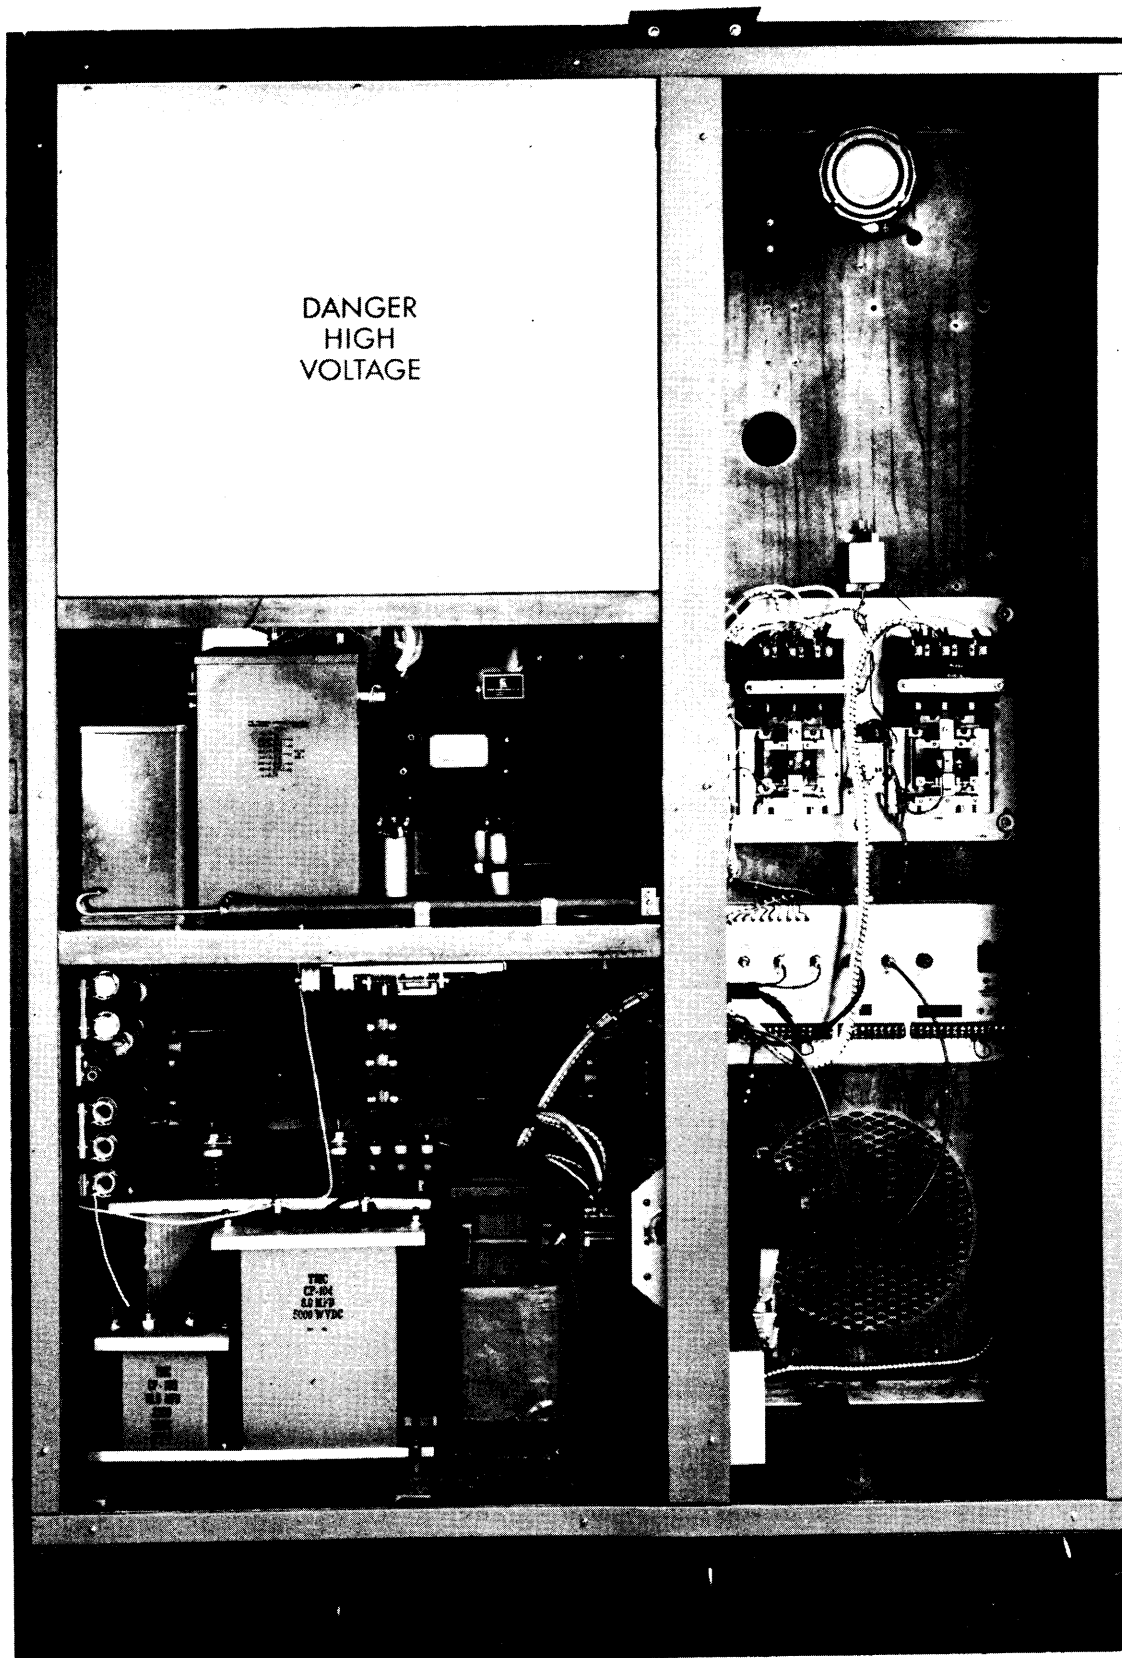

Figure 2-12. GPT-10KLF, Rear View
- (f) Position lamp socket assembly on cover top, above first frame (figure 2-12).